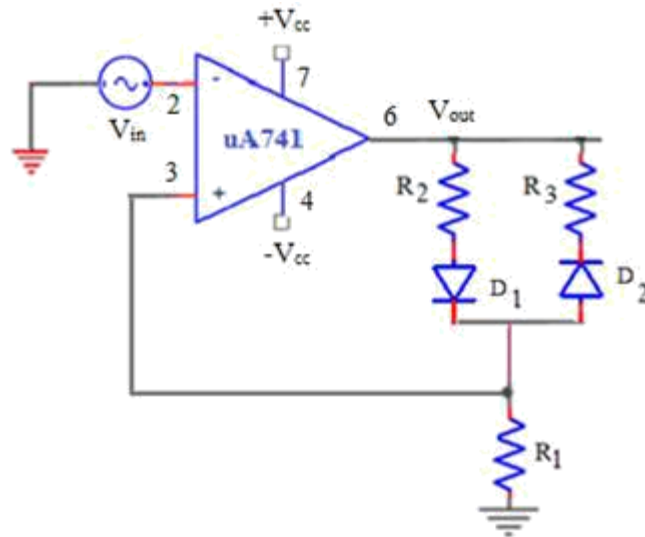

Fig. 6.4: Inverting type Schmitt Trigger circuit with unequal UTP and LTP.
[2] To design  $V_{UTP} = 3V$ ,  $V_{LTP} = -2V$ ; (Refer circuit of Fig. 6.4)
- [iv] Rig up the circuit as shown in Fig. 6.4 and repeat the above given steps.